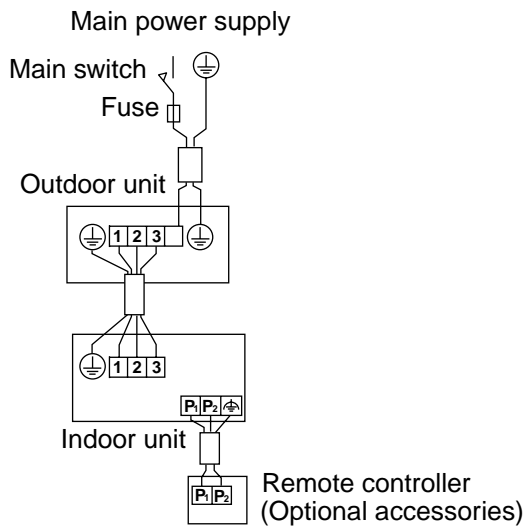

Fig. 25
- **Pair type:** 1 remote controller controls 1 indoor unit. (standard system) (Refer to Fig. 25)